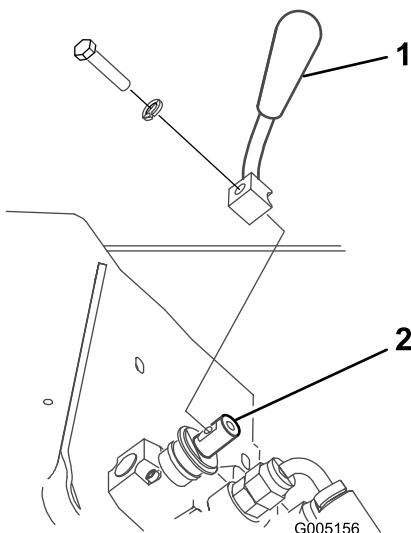

Figure 4
2. Secure the lever to the speed selector valve using the bolt and lock washer as illustrated in Figure 4.